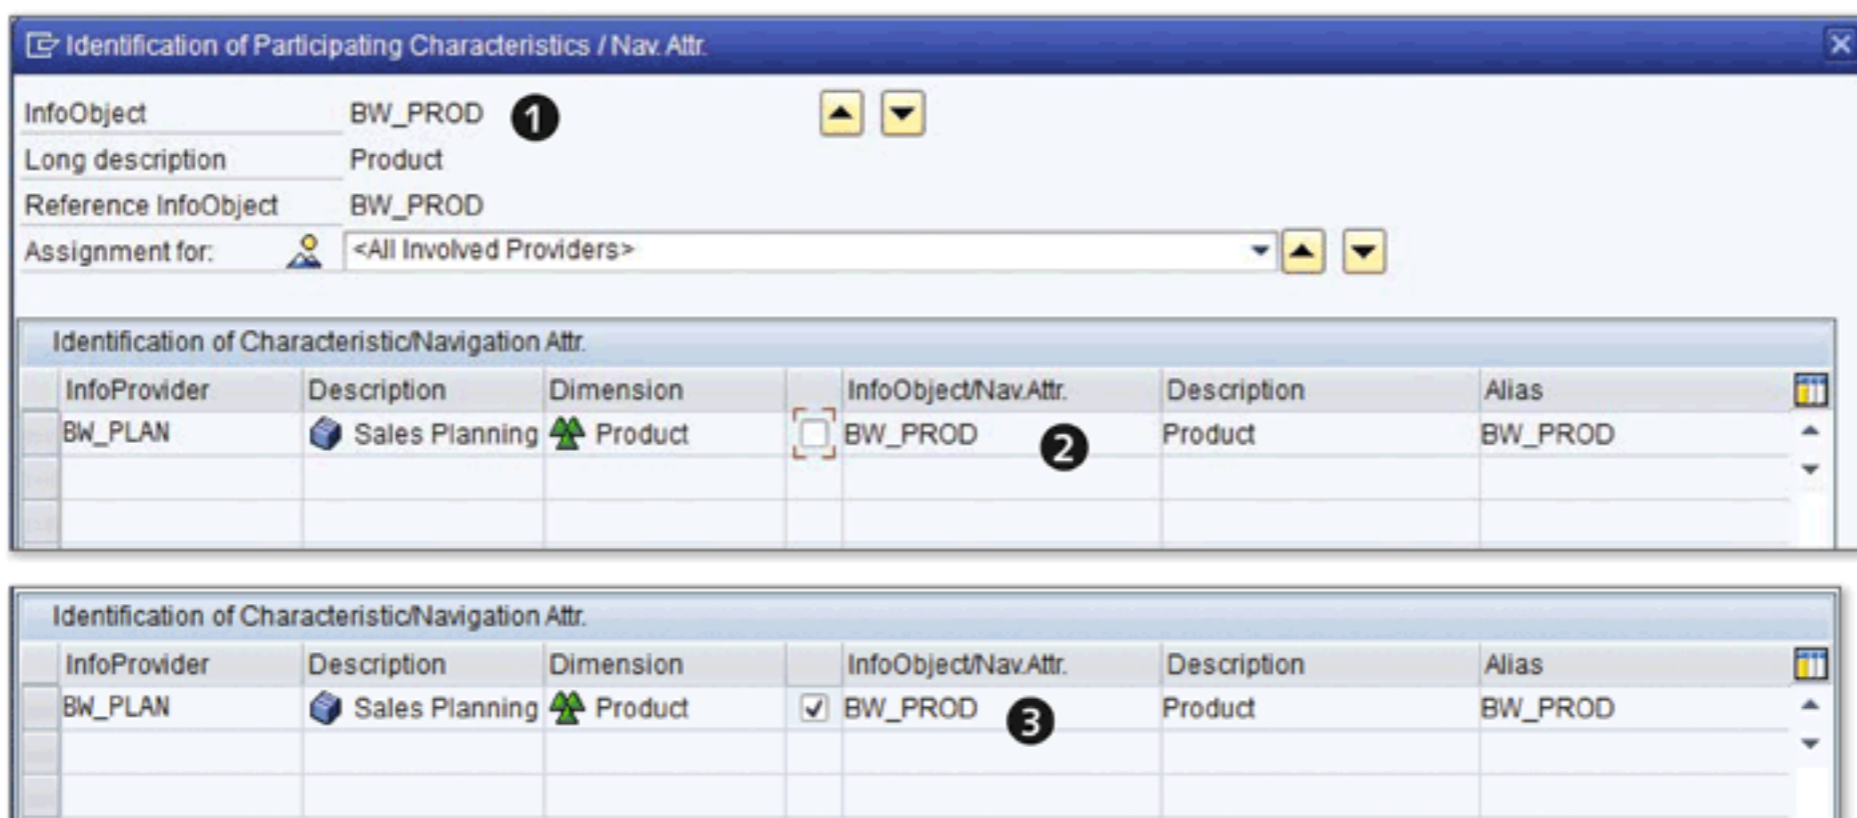

Figure 6.12 Edit MultiProvider: Identify Characteristics Only from One InfoCube
You might also have a scenario where the characteristics can't be matched to characteristics or a navigation attribute in another InfoCube or data target included in the definition of a MultiProvider. For example, characteristic BW_PROD is included in the MultiProvider definition (1 of Figure 6.12) and offered only from the SALES PLANNING CUBE InfoCube, because there's no matching characteristic available in the SALES INFOCUBE (2). In this case, you should do what we have shown in 3 of Figure 6.12.